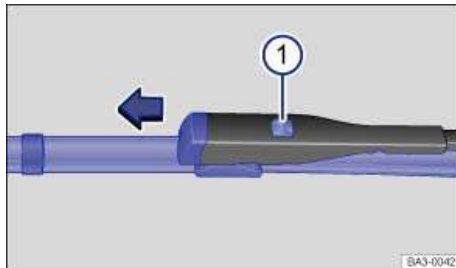

Fig. 190 Changing the windshield wiper blades.
- Press and hold the release button ⇒ fig. 190 \(1\).